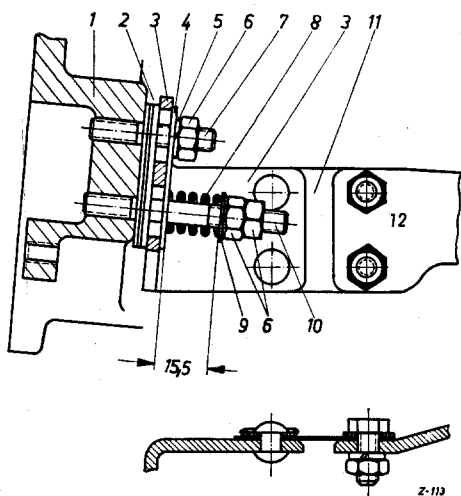

Fig. 01 — 2/13
Horizontal centering of the pedal shaft is carried out by removing or adding shims at the point on the clutch housing where the swivel support is mounted (see Fig. 01 — 2/13); **the vertical centering of the pedal shaft** is carried out by moving the bracket (3) upward or downward.